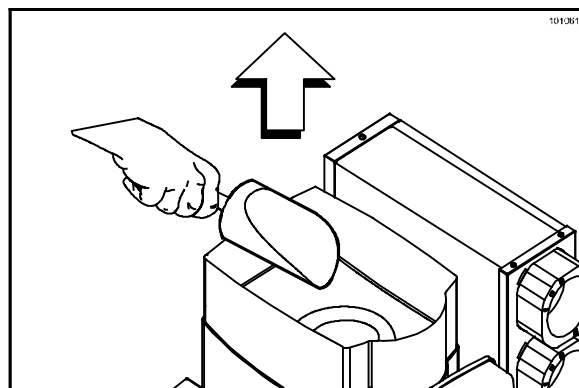

Figure 44
9. Remove the ice hopper cover. Scoop out as much ice as possible, using a clean, sanitized ice scoop. (See Figure 44.)